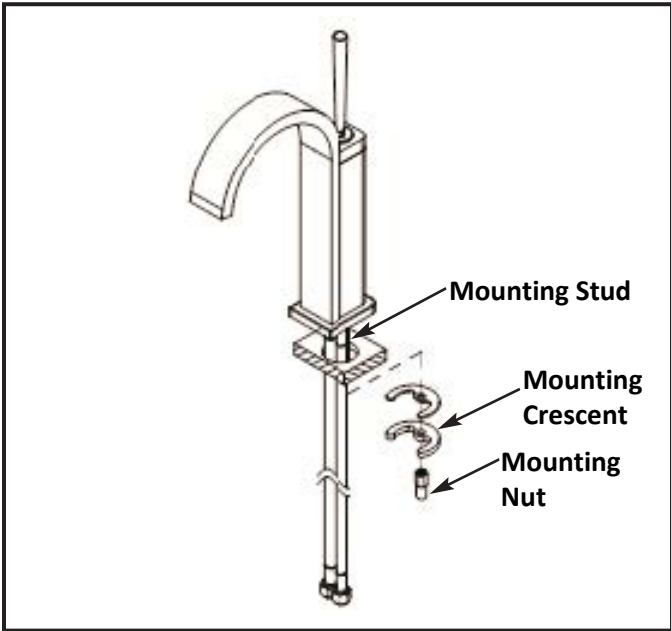

Figure 1
1. Insert hoses through deck hole one at a time, and secure spout into place with **MOUNTING STUD, MOUNTING CRESCENT** and **MOUNTING NUT**. **See Figure 1.**